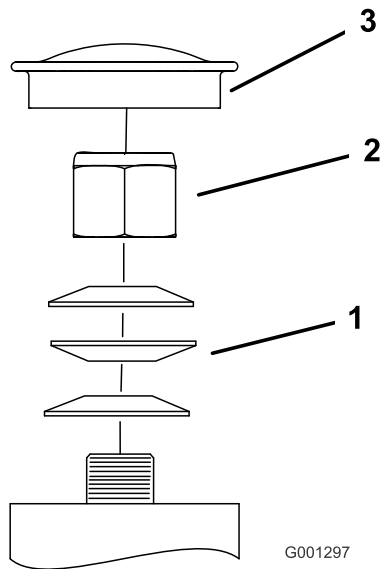

Figure 52
3. Remove the dust cap from caster and tighten lock nut (Figure 52).
4. Tighten the locknut until the spring washers are flat and then back off a 1/4 turn to properly set the pre-load on the bearings (Figure 52).
Important: Make sure spring washers are installed correctly as shown in Figure 52.
5. Install the dust cap (Figure 52).